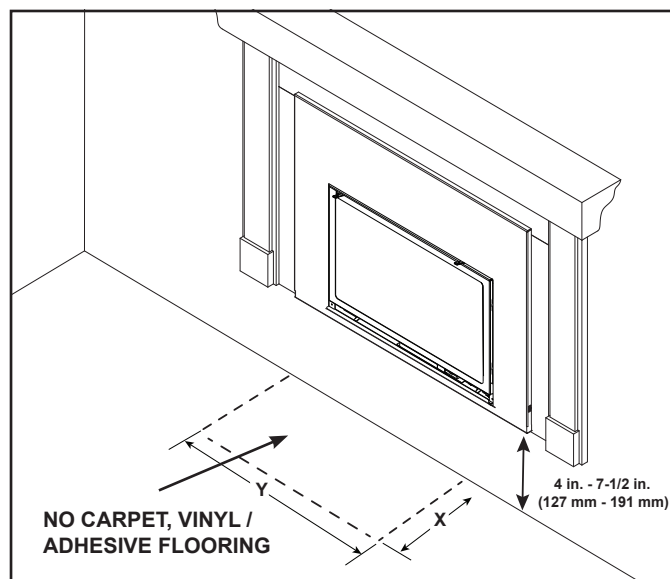

Figure 8.6 Hearth - Combustible Material Acceptable
- When the appliance is raised off the floor 4 inches (102 mm) or more, combustible flooring in front of the appliance is acceptable. Exception, no carpet, vinyl or adhesive flooring when appliance is between 4 inches (102 mm) - 7-1/2 inches (191 mm) off the floor. See Figure 8.6.